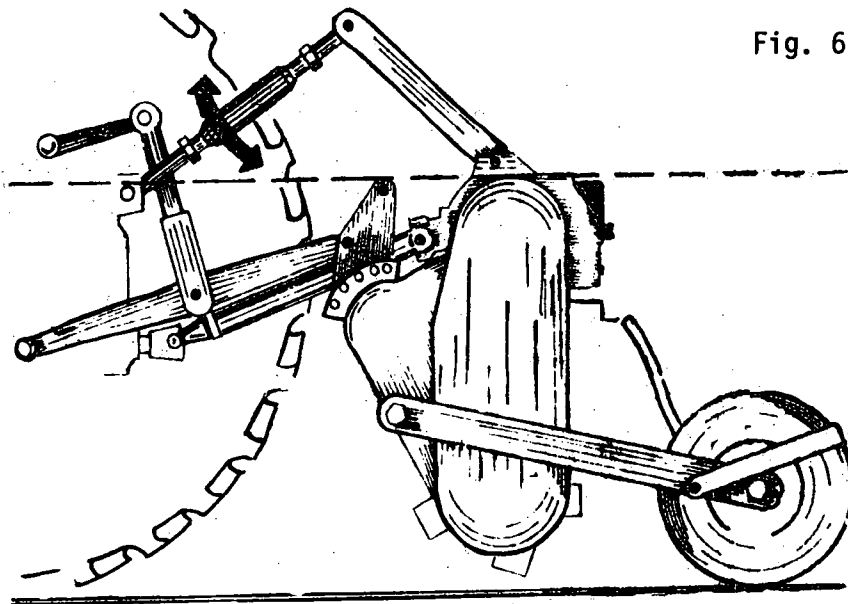

Fig. 7
- d) Adjust lengthwise by extending or shortening the top link until the frame of the implement is parallel to the ground (Fig. 7).